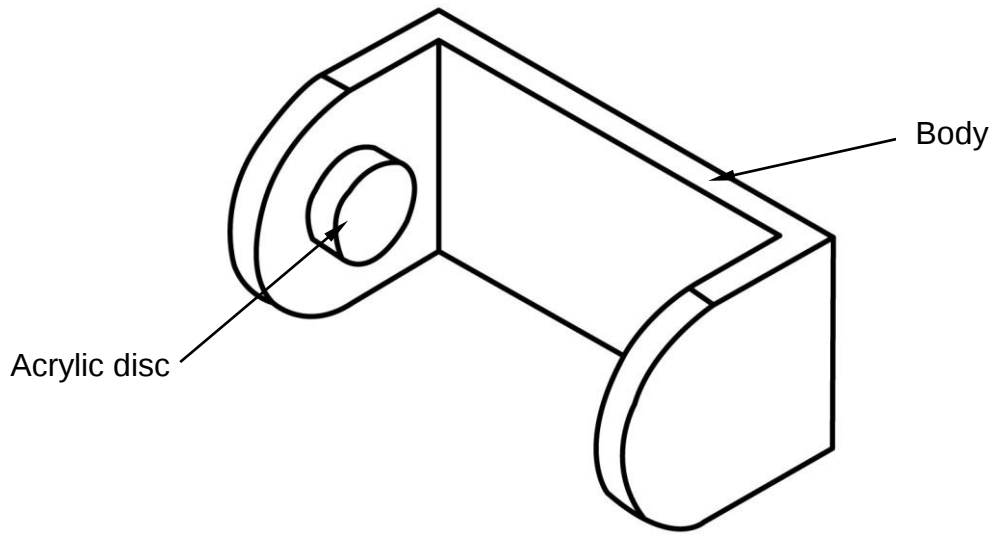

Fig. 12
- 16 Figure 12 below, shows a plastic toilet roll holder.